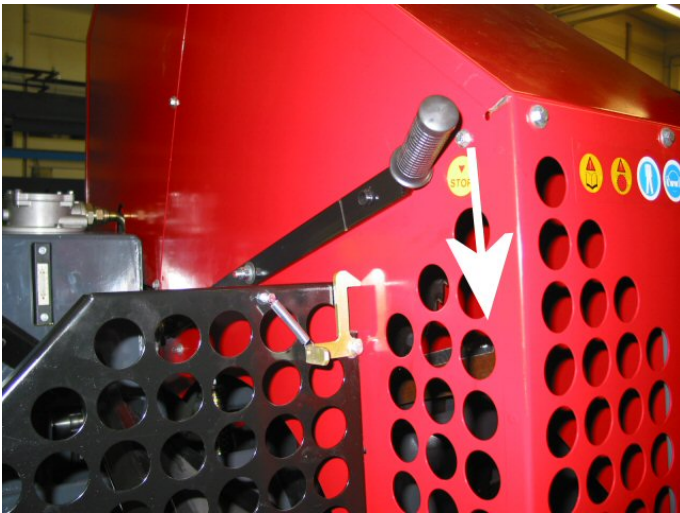

Figure 17
- In an emergency, pull the lever (figure 17) down until the lever is locked and the V-belts are left loose.